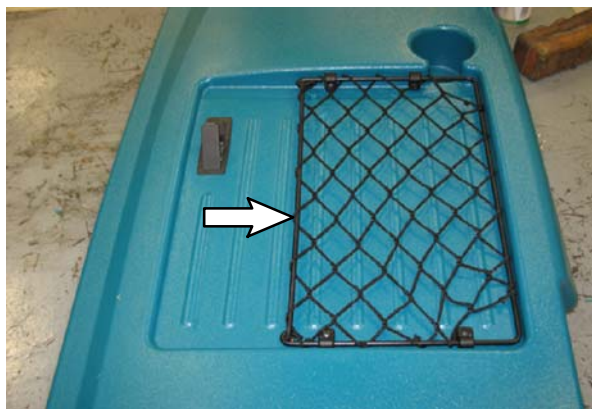

FIG. 56
71. Use four screws (105) to install the net (106) onto the top cover (81). (Fig. 56)